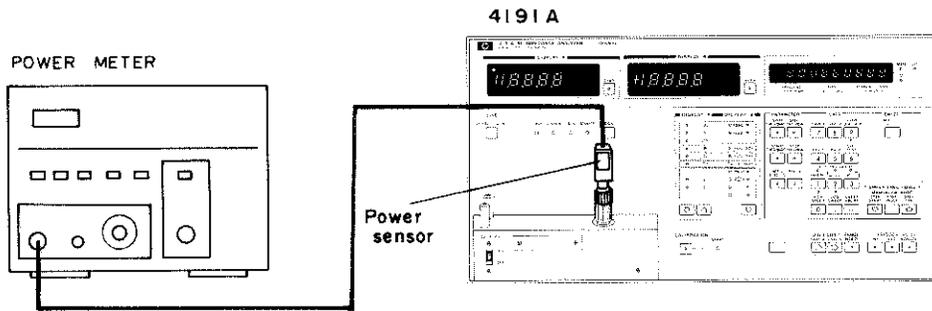

Figure 4-2. Measurement Signal Level Test Setup.
1. Connect the power sensor between the 4191A UNKNOWN connector and RF power meter input as illustrated in Figure 4-2.